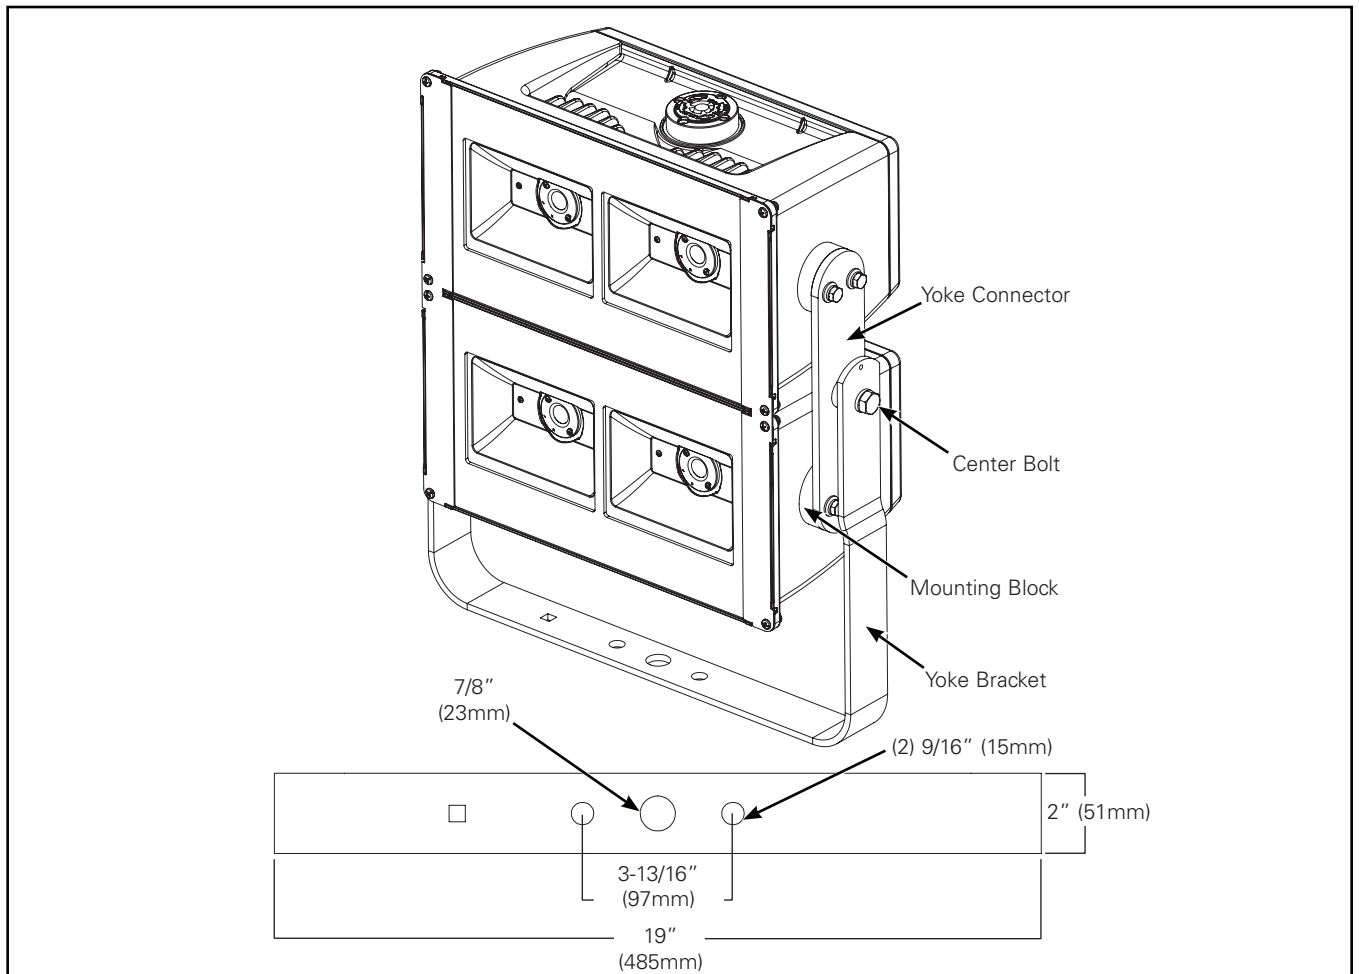

Figure 3.
Yoke Mounting (Figure 3.)
2. Loosen but do not remove (2) center bolts. (Figure 3.)